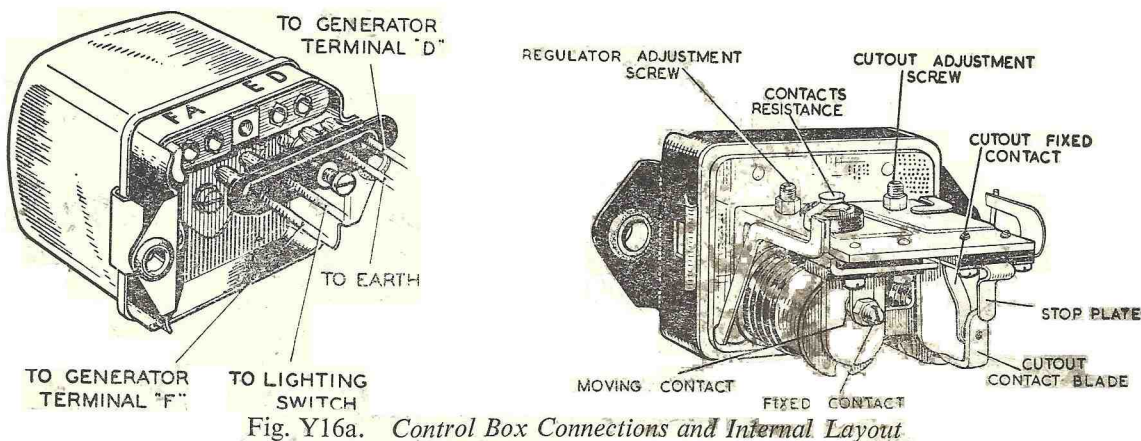

Fig. Y16a. Control Box Connections and Internal Layout
Withdraw the cable from terminal (A) Fig. Y16a, and connect it to the negative terminal of a voltmeter. Connect the positive voltmeter terminal to an earthing point on the machine. If a voltmeter reading is given, the circuit from the battery to terminal (A) is in order.